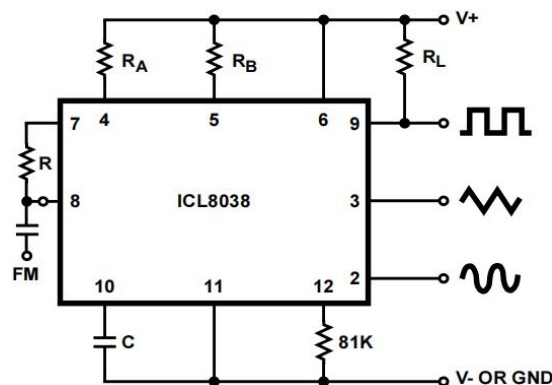

FIGURE 5A. CONNECTIONS FOR FREQUENCY MODULATION
2.  $V_{\text{SUPPLY}} = 20\text{V}$ ; RA and RB =  $10\text{k}\Omega$ ,  $f \cong 10\text{kHz}$  nominal; can be extended 1000 to 1. See Figures 5A and 5B.
The frequency of the waveform generator is a direct function of the DC voltage at Terminal 8 (measured from V+). By altering this voltage, frequency modulation is performed. For small deviations (e.g.  $\pm 10\%$ ) the modulating signal can be applied directly to pin 8, merely providing DC decoupling with a capacitor as shown in Figure 5A. An external resistor between pins 7 and 8 is not necessary, but it can be used to increase input impedance from about  $8k\Omega$  (pins 7 and 8 connected together), to about  $(R + 8k\Omega)$ .